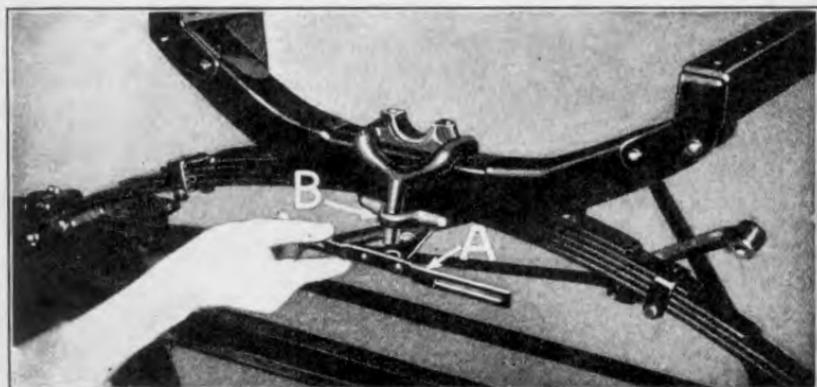

Fig. 59
- (e) Remove crankcase front bearing and spring clip by running off the two crankcase front bearing and spring clip nuts and lifting off license bracket (See "A" Fig. 59) and spring clip bar "B". Spring clip is then lifted off of cross member.
- 65** *Insert license bracket over ends of spring clip* (See "A" Fig. 59). Run down the two spring clip nuts on ends of spring clips; draw nuts down tightly and lock with cotter keys.